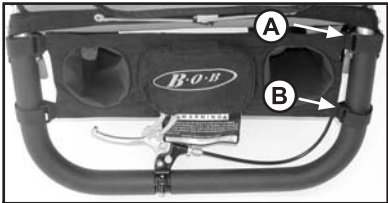

Fig. 1 Console orientation
1. Begin by orienting the Handlebar Console as shown in figure 1.
2. The Handlebar Console attaches to the stroller handlebar by 4 velcro straps. Start attaching the Handlebar Console to the handle bar with the forward right velcro strap, "A" in figure 1. The strap attaches as follows:
3. Next attach the back right strap, "B" in figure 1. The strap attaches as follows: